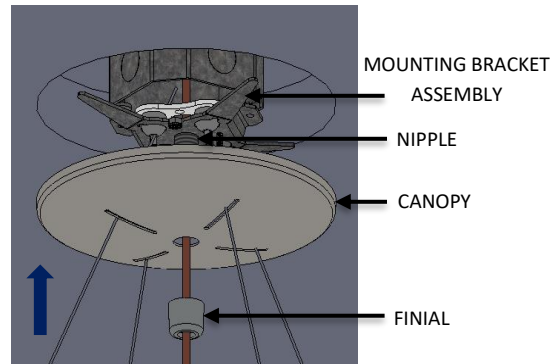

FIG. 20 - FINIAL INSTALLATION
5. Raise CANOPY and secure to ceiling by threading the FINIAL to the NIPPLE (MOUNTING BRACKET ASSEMBLY) until fully seated as shown in FIG. 20.